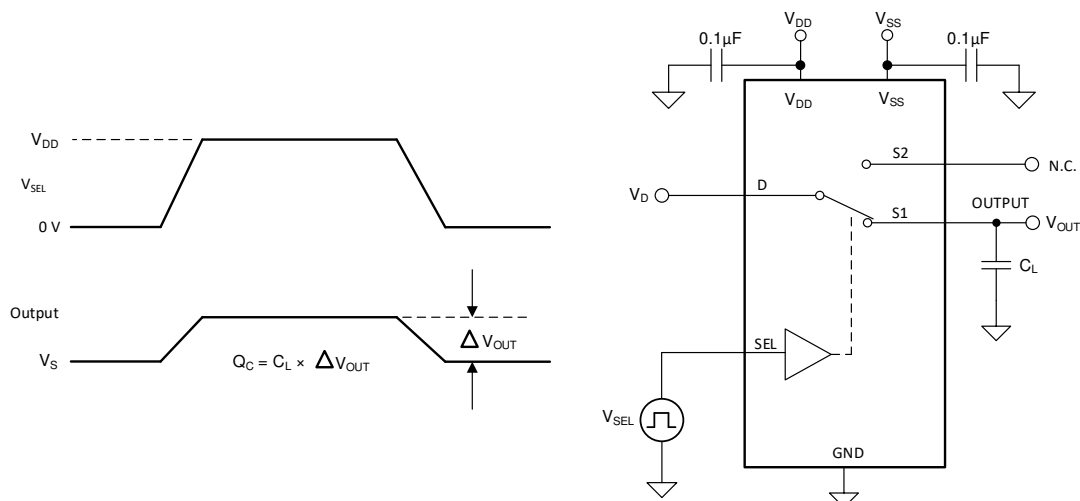

图 6-6. Charge-Injection Measurement Setup
The TMUX1119 has a transmission-gate topology. Any mismatch in capacitance between the NMOS and PMOS transistors results in a charge injected into the drain or source during the falling or rising edge of the gate signal. The amount of charge injected into the source or drain of the device is known as charge injection, and is denoted by the symbol Q_C . 图 6-6 shows the setup used to measure charge injection from Drain (D) to Source (Sx).